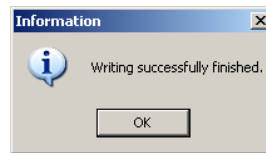

Figure 5-53: Successful creation of Deko1000 or Deko550 Drive Image Restore DVD
- 14. When “Writing Successfully Finished” (Figure 5-53) is displayed, the DVD can be removed.**